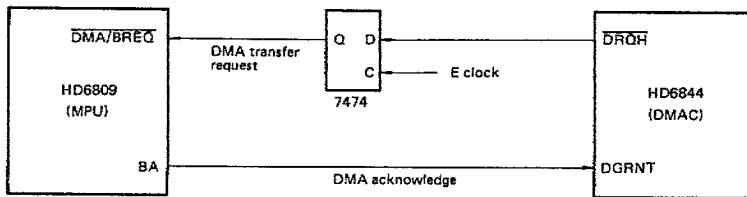
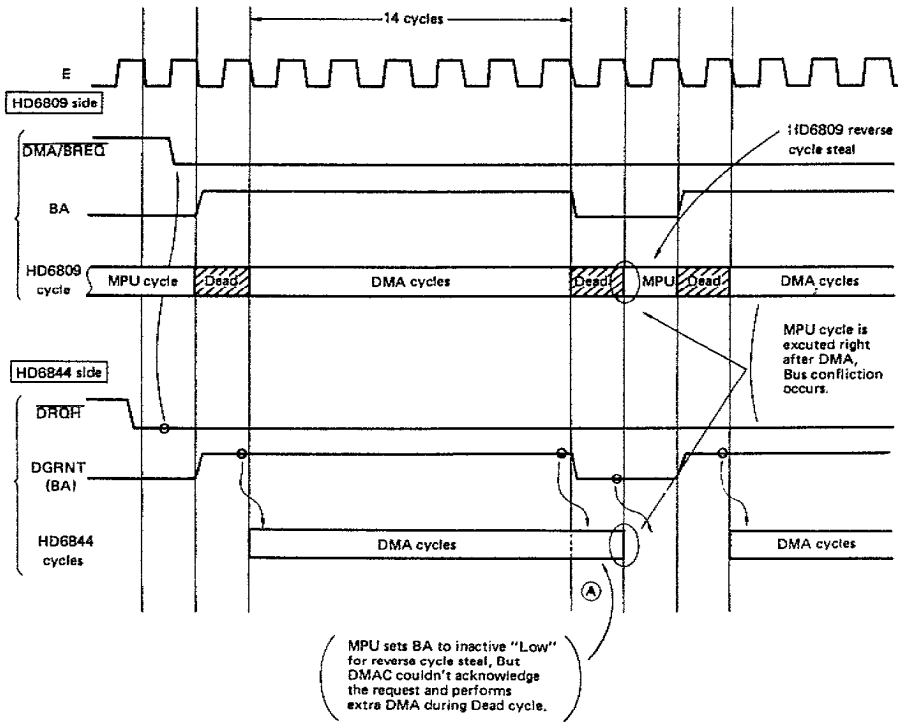

Figure 24 An Example of HD6809, HD6844 System
Figure 25 Comparison of HD6809, HD6844 DMA cycles
(The restriction is also applied to the system which doesn't use 7474 Flip-Flop. Fig. 24, Fig. 25 shows an example which uses 7474 for synchronizing DMA request with E.)
As shown in Fig. 25, DMA controller can't stop DMA transfer (A) by BA falling edge and excutes an extra DMA cycle during HD6809 dead cycle. So MPU cycle is excuted right after DMA cycle, the Bus confliction occurs at the beginning of MPU cycle.